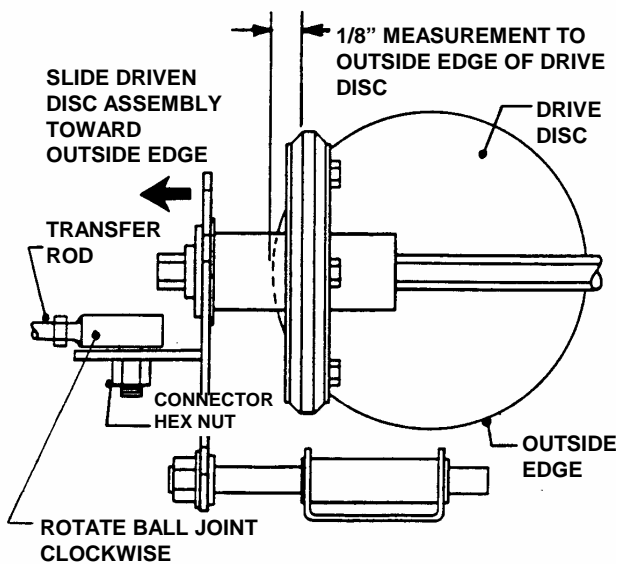

FIGURE 4.8
3. Slide driven disc assembly over to 1/8" from outside edge of drive disc. Maintaining the 1/8" measurement, remove any misalignment from the transfer rod linkage and the driven disc assembly anchor point. This can be done by loosening nut and rotating the transfer rod ball joint clockwise on the transfer rod until alignment with the driven disc assembly anchor point is achieved. Retighten ball joint nut. Insert ball joint into anchor point and reinstall the connector hex nut and tighten securely. See Figure 4.8. Move ground speed control to the first speed position, then back to the sixth speed position. Recheck the 1/8" measurement described previously. Reinstall driven disc spring to driven disc assembly.